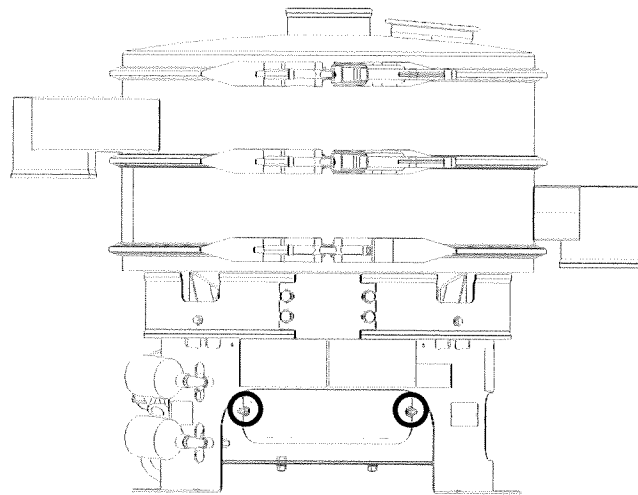

Figure 13. Bottom Motor Weight Cover (Arrowed) and Retaining Hardware (Circled)
1. After completing electrical connections, remove the bottom motor weight cover (Refer to Figure 13).